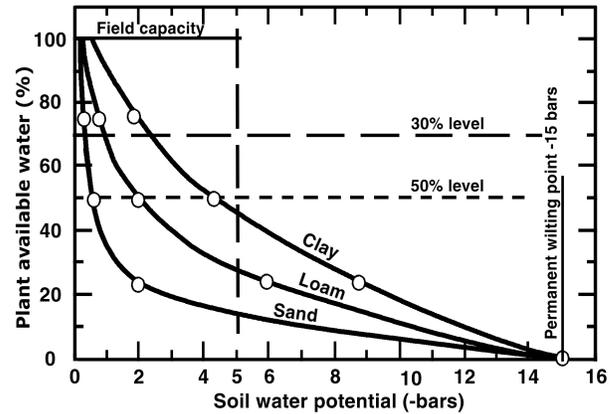

Figure 1. A diagram of typical tension and water amount for sand, clay and loam. (Taken from the National Engineering Handbook, 210-VI).
When the soil profile is full of water, reaching what is called *field capacity* (FC), the profile is said to be at 100% moisture content or at about 0.1 bars of tension. Tension is a measurement of how tightly the soil particles hold onto water molecules in the soil. The tighter the hold, the higher the tension. At FC, with a tension of only 0.1 bars, the water is not being held very tightly and it is easy for plants to extract water from the soil. As the water is used up by the plants, the tension in the soil increases. Figure 1 shows three typical curves for sand, clay and loam soils. As Fig. 1 shows, the plants will use the water in the soil until the moisture level goes to the *permanent wilting point* (PWP). Once the soil dries down to the PWP, plants can no longer extract water from the soil and the plants die. Although there is still some moisture in the soil below the PWP, this water is held so tightly by the soil particles that it cannot be extracted by the plant roots. The PWP occurs at different moisture levels